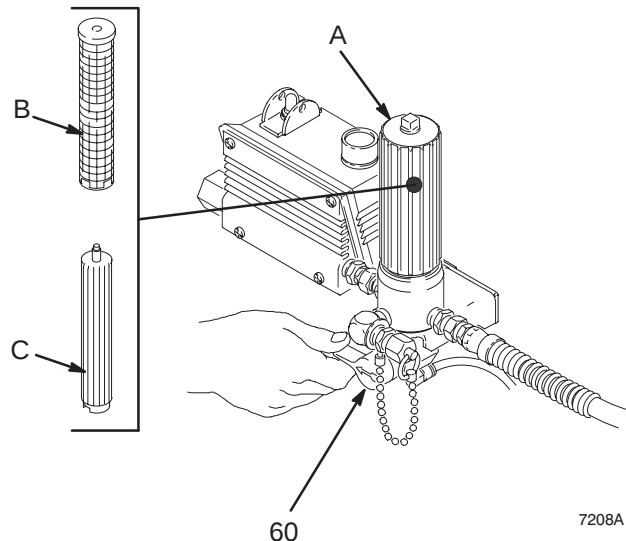

Fig. 6
2. Unscrew the filter bowl (A) and remove the screen (B). Leave the support (C) in place. Reinstall the bowl. Clean the screen separately. See Fig 6. Also see instruction manual 307-273, supplied.
3. Close the pressure drain valve (60).